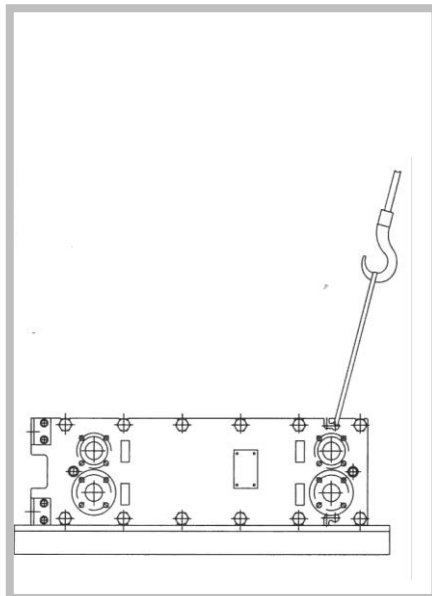

Figure 22
2. Attach suitable lifting means to the designated suspension eyes of the frame plates (Figure 22). Chain suspensions may not be used. The PHE can be damaged and slip off.